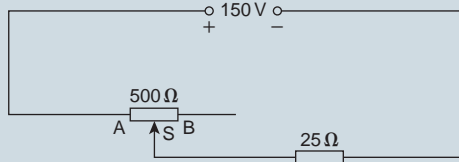

Figure 7.45
2. For the circuit shown in Fig. 7.45, calculate the current flowing in the $25\ \Omega$ load and the voltage drop across the load when (a) AS is half of AB , and (b) point S coincides with point B . Is this a potentiometer or a rheostat?